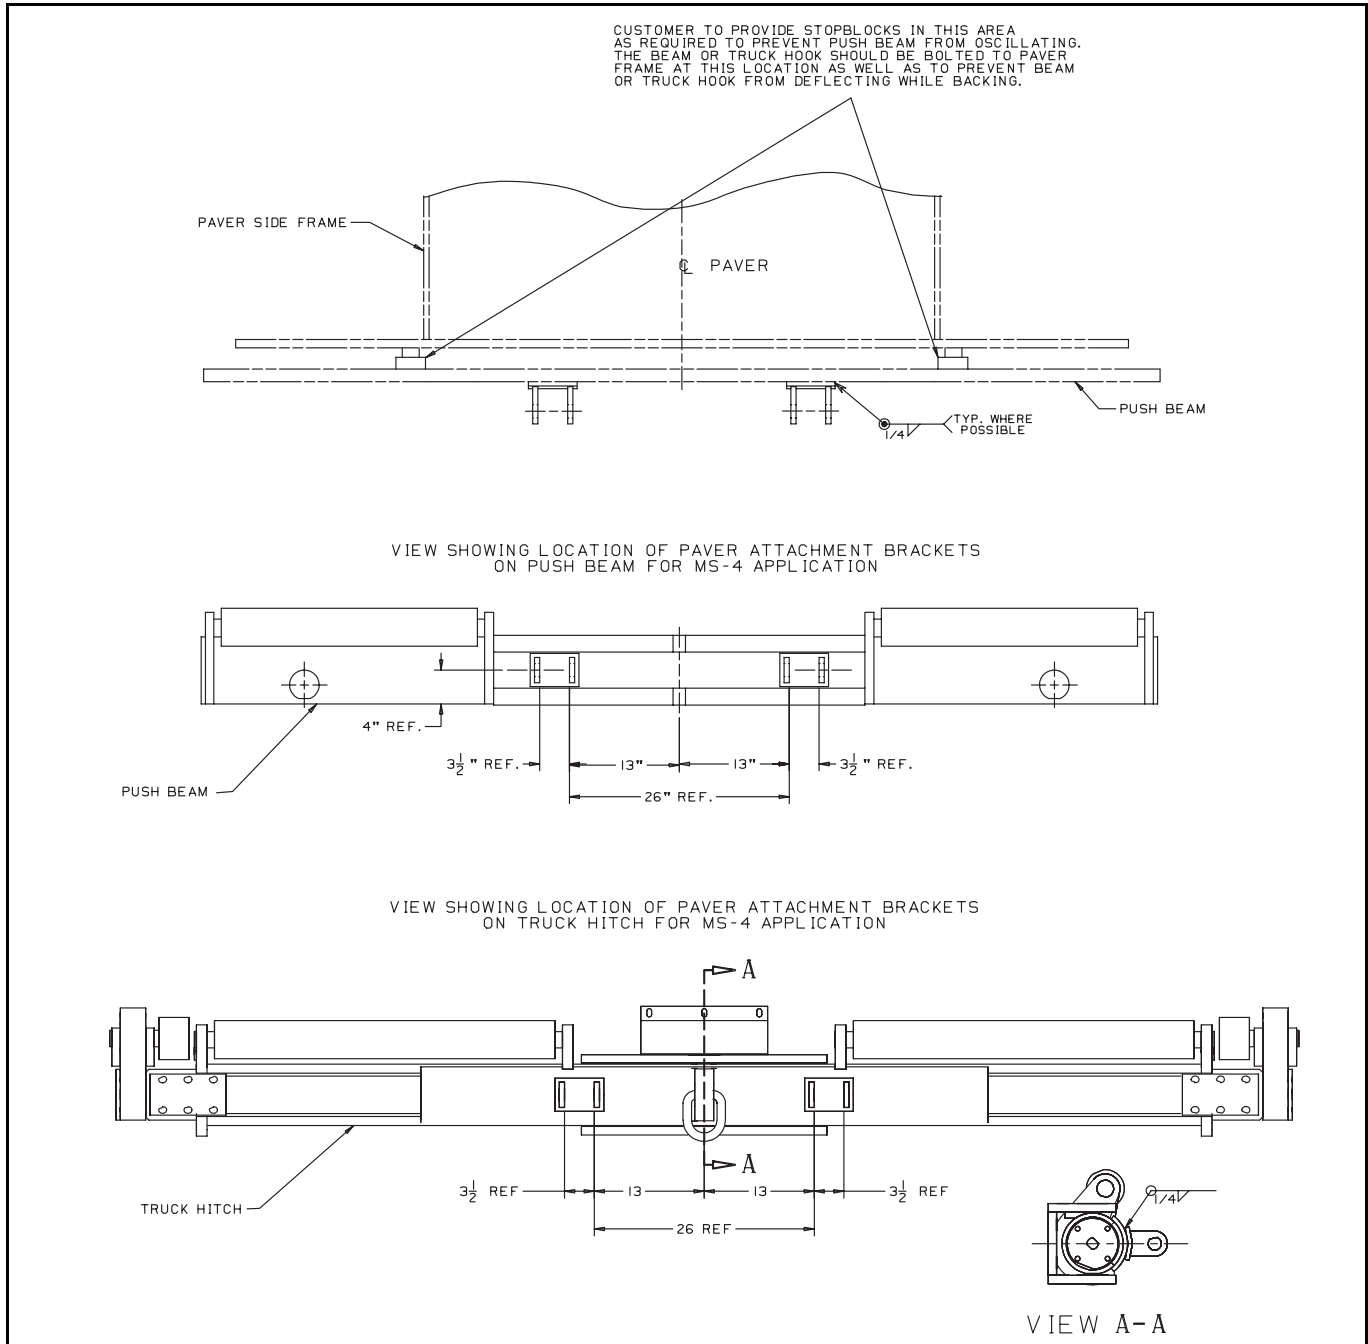

Figure 14 Installation of Paver Attachment Brackets
- 1) Install machine attachment brackets on paver push beam or truck hook as shown in instructions (Figure 14).